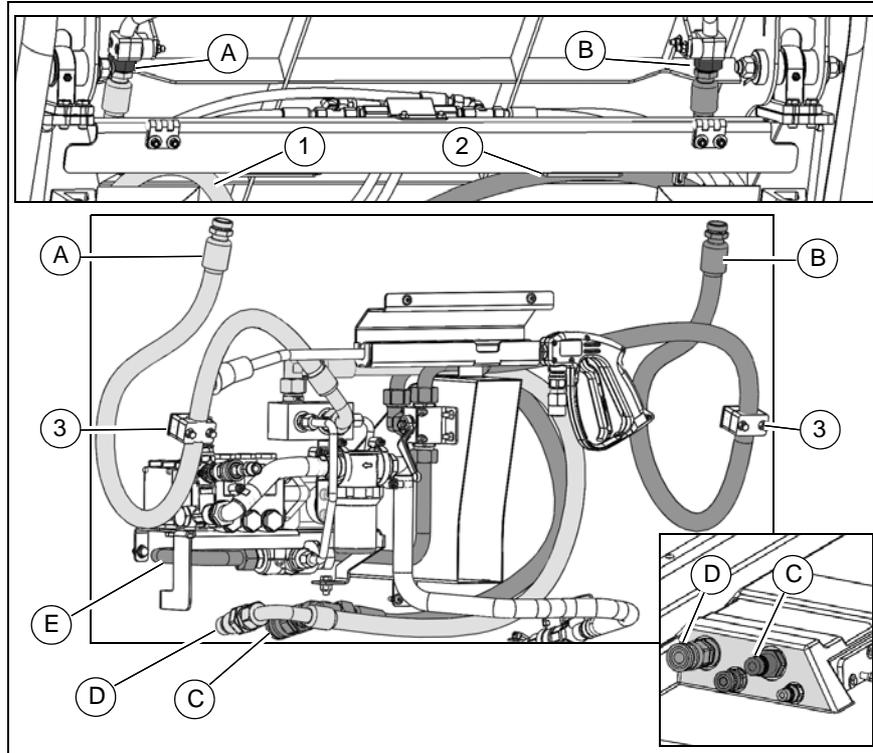

Fig.6
1. Relieve of pressure and dismantle the existing hydraulic hoses (Fig. 6/1) and (Fig. 6/2).
2. Connect the hydraulic hose (Fig. 6/A) for the return of the high-pressure cleaner to the screwed pipe fitting (Fig. 6/A).
3. Connect the hydraulic hose (Fig. 6/B) for the supply of the high-pressure cleaner to the screwed pipe fitting (Fig. 6/B).
4. Attach both hydraulic hoses with the clamps (Fig. 6/3) to the cross-beam of the dirt hopper.
5. Connect the hydraulic hose (Fig. 6/C) for the supply of the high-pressure to the supply of the rear wagon.
6. Connect the hydraulic hose (Fig. 6/D) for the return of the high-pressure to the return of the rear wagon.
7. Fit the hydraulic pipe (Fig. 6/E) between the hand valve and hydraulic pump.